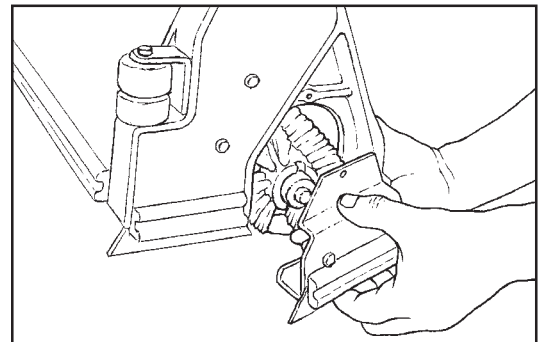

Figure 16
5. Lower door approximately 1/2 inch and slide door and bearing assembly off shaft (figure 16).